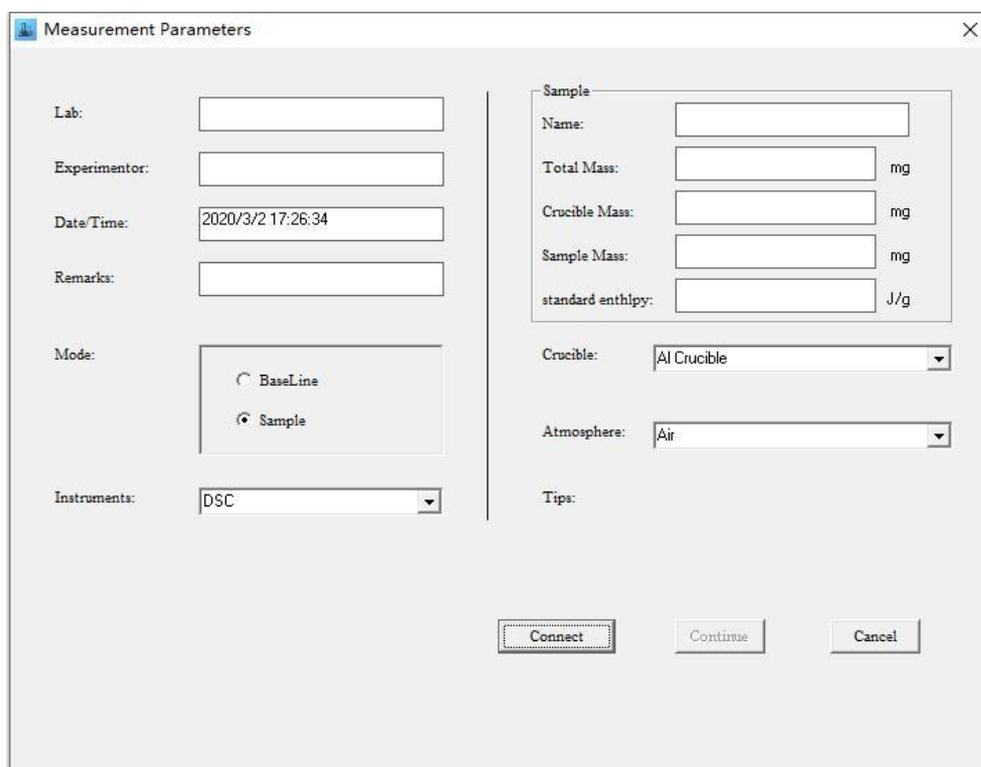

图 1-2
2. Parameter setting of the main interface (As shown in Figure 1-2)